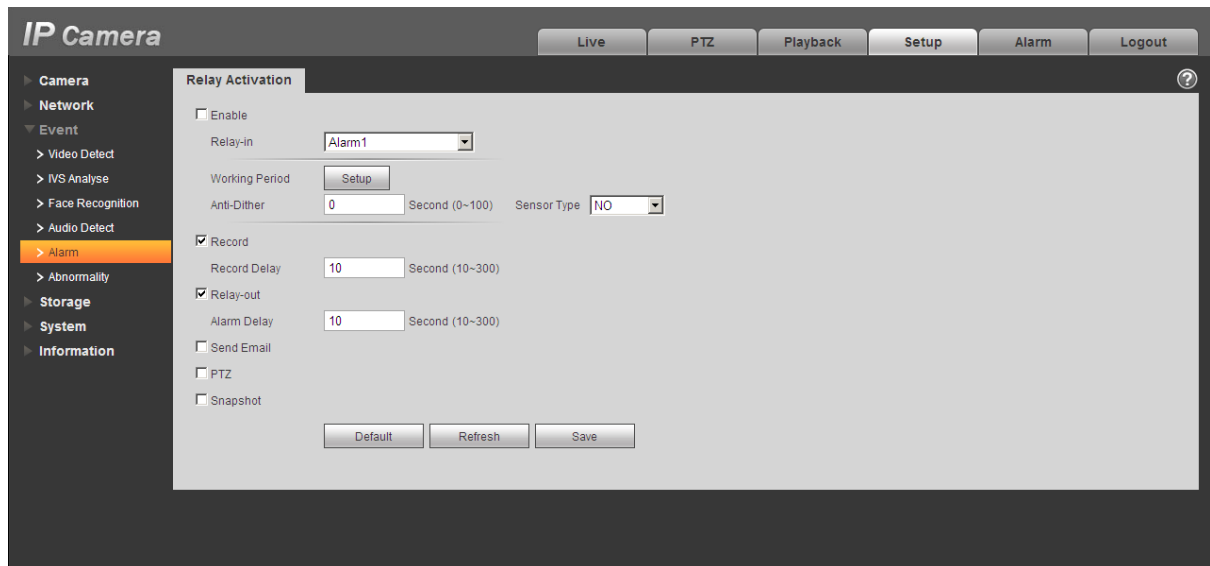

Figure 1-3 Alarm
The alarm interface is shown as in Figure 1-3. .
Step 3. Open the Web; go to the Figure 1-3. Here you can set the alarm input setup and alarm output setup. Here the alarm input is the alarm input on the rear panel I/O port (as IN port). Then you can select the corresponding type (NO/NC) according to the high/low level type when an alarm occurs.